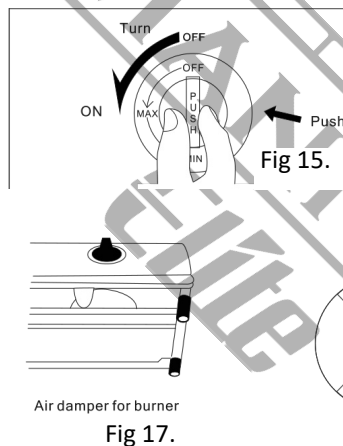

Fig 15.
a. Open the main gas valve. Push the gas control knob in and turn it towards the MAX position (counter-clockwise) until you hear the click. Make sure that the burner has been lit (Fig.15) in this position, double burner will light up both the small and large burners. To use only the small burner, release the gas control knob and turn it further to the MIN position. (Fig. 16)